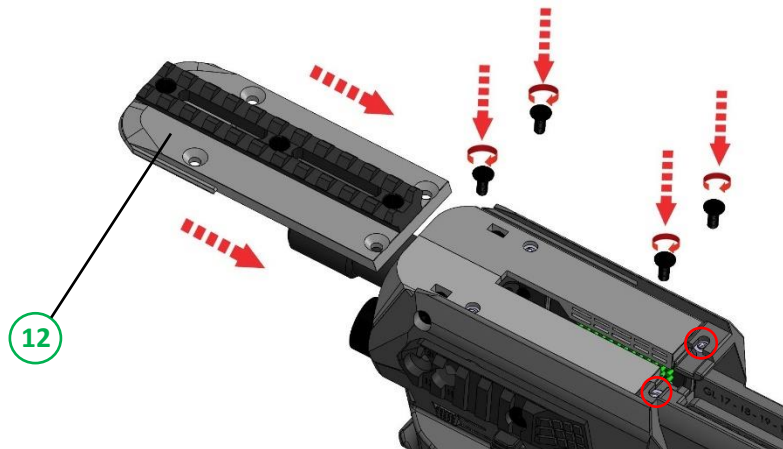

FIGURE 79
Make sure the nut (x2) inside the MCK bodies is still in place and centered (circled). Slide in the top front picatinny rail assembly (12) through the internal guide rails of the MCK bodies until the screw holes are aligned with the nut holes (x4). Then, screw in the top front picatinny rail screw (x4) using a 2.5mm Allen wrench (FIGURE 79).